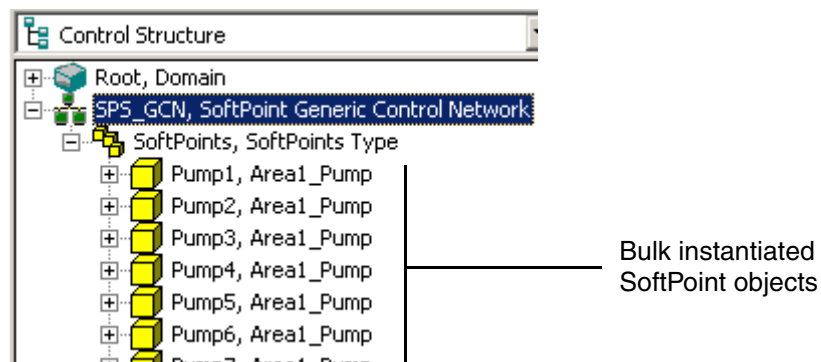

Figure 26. Example, Bulk Instantiation Result
5. Specify the number of objects to create in the **Number of new objects** field. In this example, nine (9) new objects will be created.
7. Click **OK**. The result is shown in Figure 26.